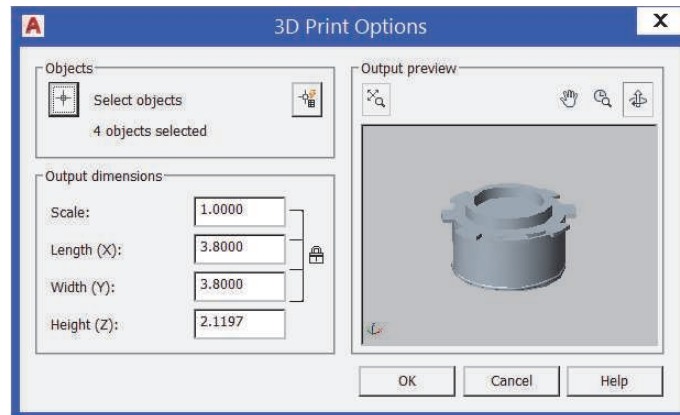

Figure 11–55
5. In the 3D Print Options dialog box, set the Output dimensions scale to **1**, as shown in Figure 11–55. Click **OK**.